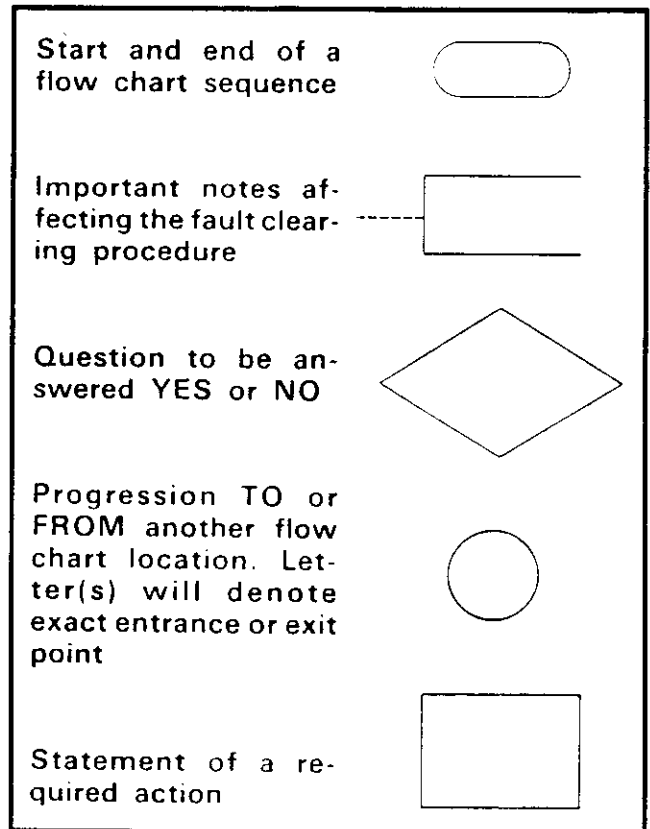

FIGURE 1—FLOWCHART SYMBOLS
03.03 Five symbols are used in the flowcharts, which are identified in Figure 1.